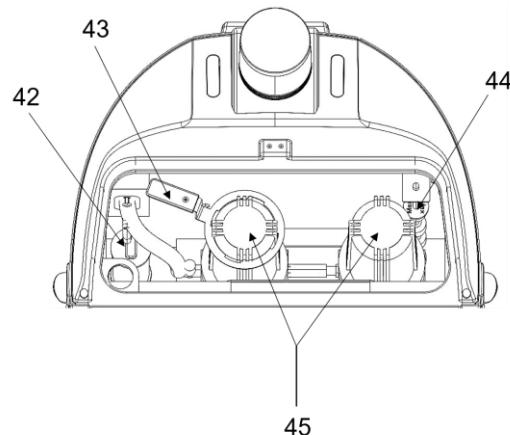

FIG.26
1. Drain out the solution tank using the solution tank drain hose (15).
2. Remove the filters using the tool (43) which is located above the filter system as shown in FIG .26.
3. Replace the filter elements (45).
4. Reinstall the filter (45).